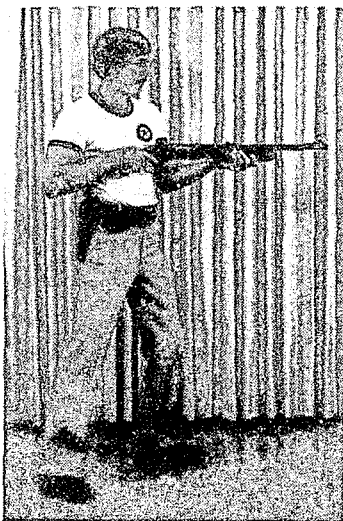

Figure 8-32
F. The Hip Position (See Figure 8-32)